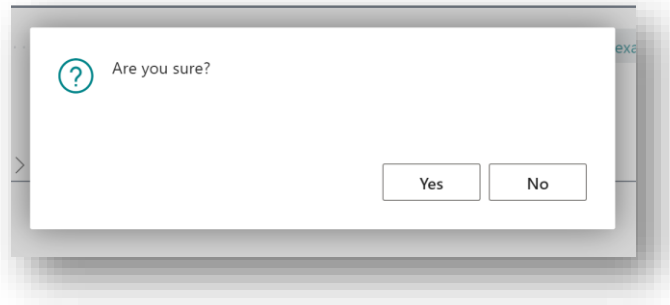

Figure 6-3
3. You are then prompted, “Are you sure?” Choose **Yes** (Figure 6-3).